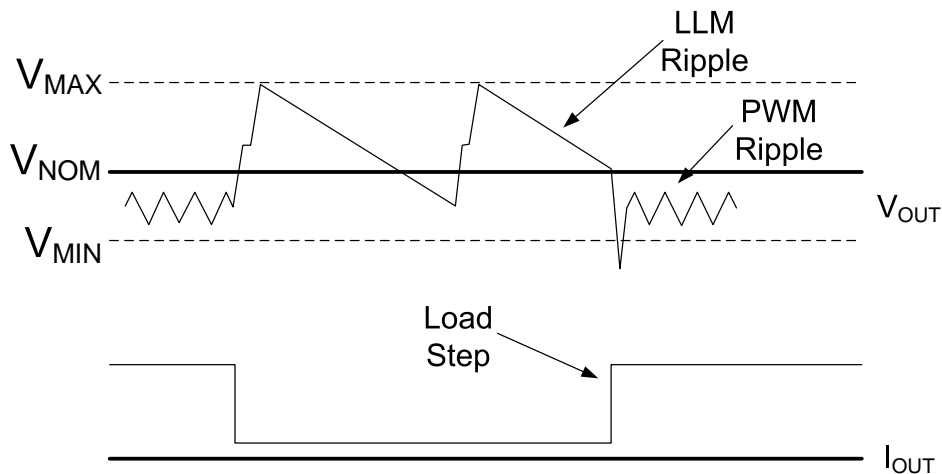

Figure 5.  $V_{OUT}$  behavior in LLM operation
- (1) Step  $V_{OUT}$  up by approximately 1.0% above the nominal operating output voltage setting,  $V_{NOM}$  and as low as -0.5% below  $V_{NOM}$ , and then
- (2) Shut down unnecessary circuitry, and then
- (3) Monitor  $V_{OUT}$ .
When  $V_{OUT}$  falls below  $V_{NOM}$ , the device will repeat (1), (2), and (3). The voltage step up, or pre-positioning, improves transient droop when a load transient causes a transition from LLM mode to PWM mode. If a load transient occurs, causing  $V_{OUT}$  to fall below the threshold  $V_{MIN}$ , the device will exit LLM operation and begin normal PWM operation. Figure 5 demonstrates  $V_{OUT}$  behavior during transition into and out of LLM operation. Many multi-mode DC-DC converters suffer from a condition that occurs when the load current increases only slowly so that there is no load transient driving  $V_{OUT}$  below the  $V_{MIN}$  threshold. In this condition, the device would never exit LLM operation. This could adversely affect efficiency and cause unwanted ripple. To prevent this from occurring, the EN6347QA periodically exits LLM mode into PWM mode and measures the load current. If the load current is above the LLM threshold current, the device will remain in PWM mode. If the load current is below the LLM threshold, the device will re-enter LLM operation. There may be a small overshoot or undershoot in  $V_{OUT}$  when the device exits and re-enters LLM.